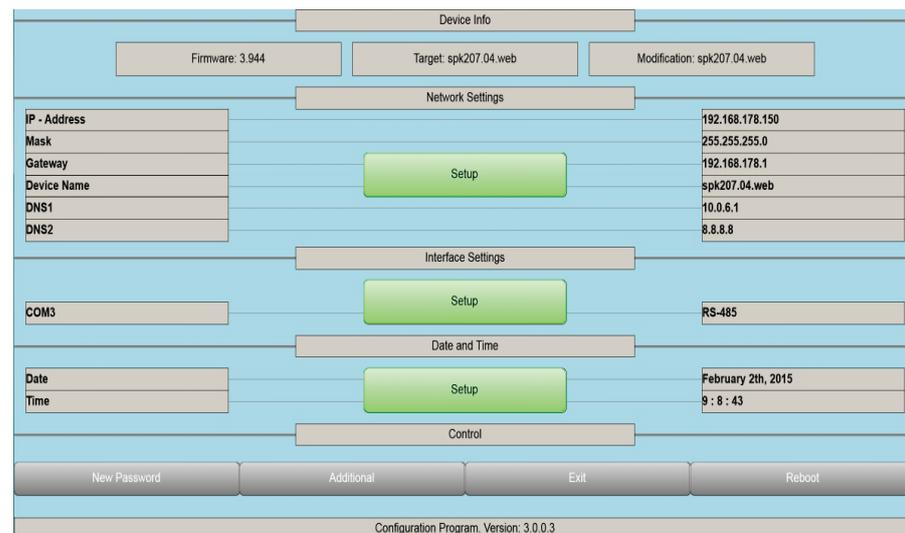

Fig. 7.3 Configuration Mode - SPK207
- Touch **OK** after the password input. If the password is correct, the configuration dialog will appear (Fig. 7.3).